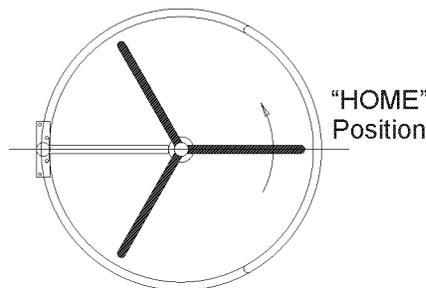

Figure 1
1. If not in “Home” position, manually position the Roto Section (the arms) to the “Home” position. See Fig. 1.